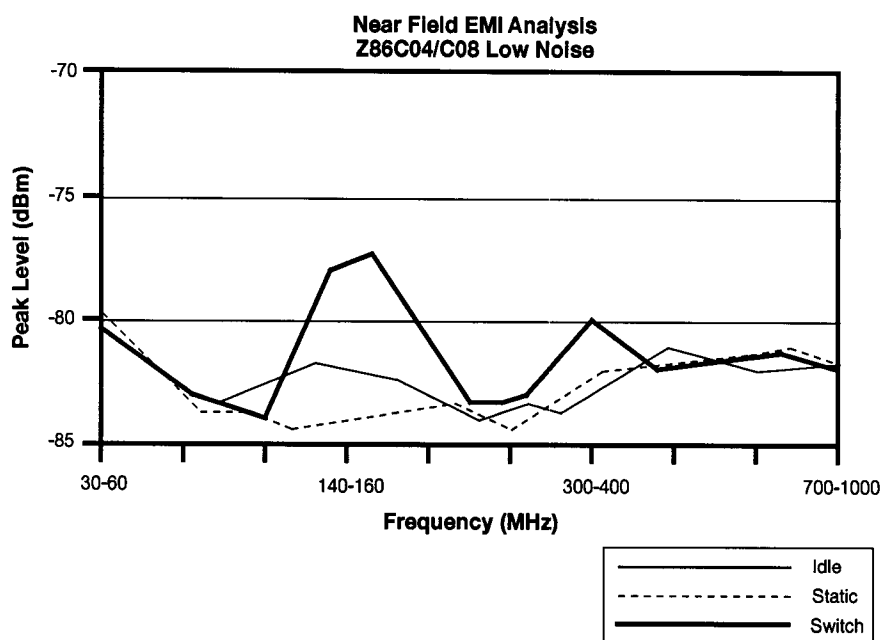

Figure 6. Typical Low Noise Measurements
The measurements, shown in Figure 6, were made while operating the Z8 in three states: (1) idle condition, (2) static output; (3) switched output.